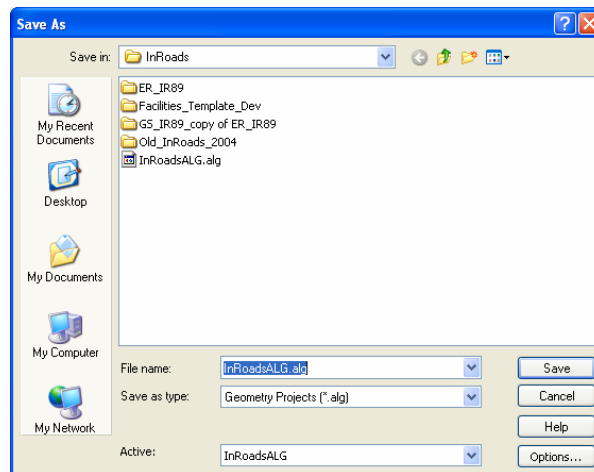

Figure 1-8 InRoads Save As Geometry Projects Dialog Box
- J. Create and Save the .alg (Geometry Project) file. Click to **File > Save > Geometry Project** on the InRoads Menu Bar. Click on the geometry name to save in the Active space and then the File name will appear in the File Name Box. Click **Save**, and then after the file is saved, click **Cancel**. See Figure 1-8.